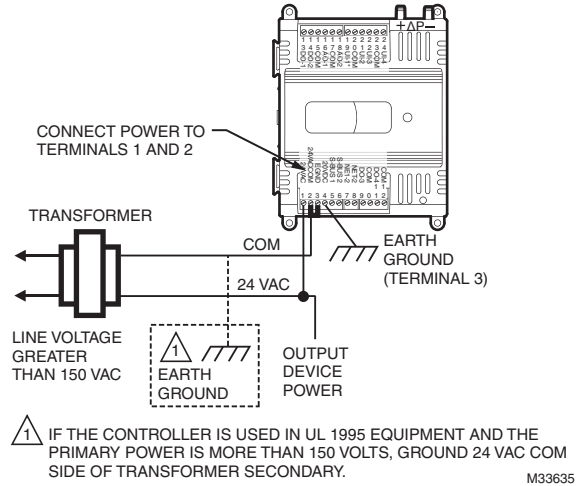

Fig. 11. Transformer power wiring details for one controller used in UL 1995 equipment (U.S. only).
- See Fig. 11 on page 8 for controller power wiring used in UL 1995 equipment (U.S. only).
If the controller is used on **Heating and Cooling Equipment (UL 1995, U.S. only)** and the transformer primary power is more than 150 volts, connect terminal 2, (the 24 Vac common [24 VAC COM] terminal) to earth ground (see Fig. 11). For these applications, only one controller can be powered by each transformer.
- If a controller is used on Heating and Cooling Equipment (UL 1995, U.S. only) and transformer primary power is more than 150 volts, connect the transformer secondary common to earth ground (see Fig. 11 on page 8).